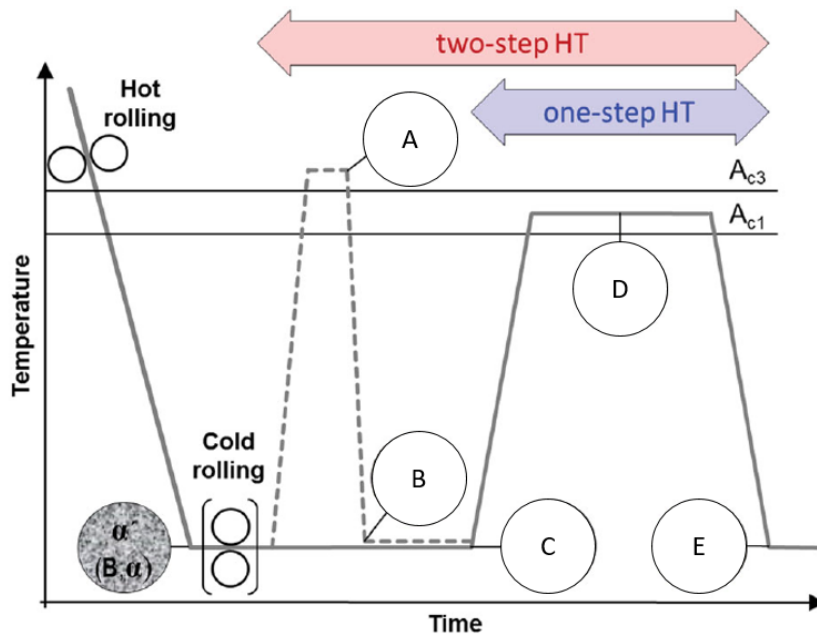

Figure 2. Illustrations of the one-step HT and the two-step HT routines.
- c) Figure 2 shows the temperature-time-diagram for a heat treatment (HT) of a 3rd generation AHSS containing 0.1 wt.% C, 6.5 wt.% Mn, 0.01 wt.% Si, and 0.01 wt.% Al. The dashed line is the only difference between the one-step HT and the two-step HT.